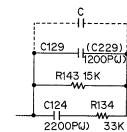

Fig. 6.2.4 Main P.C.B.
(1) For SX Tape
b. Feed in 10 kHz and 400 Hz (-20 dB) then record and play it back. Check the difference of the levels between 10 kHz and 400 Hz, and mount an additional capacitor in parallel with the C129 (C229) from the dip side of the printed circuit board depending upon the difference of the levels against 400 Hz. See Fig. 6.2.4.